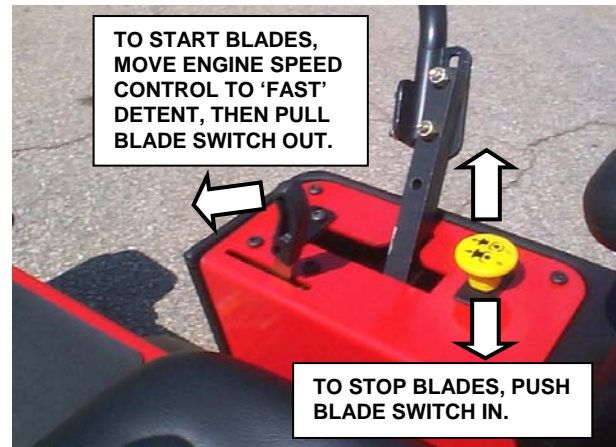

FIGURE 2.10
2. Pull Blade Switch out to its on ('I') position to engage mower blade. See Figure 2.10.
Push Blade Switch in to its off ('O') position to disengage mower blade(s). See Figure 2.10.